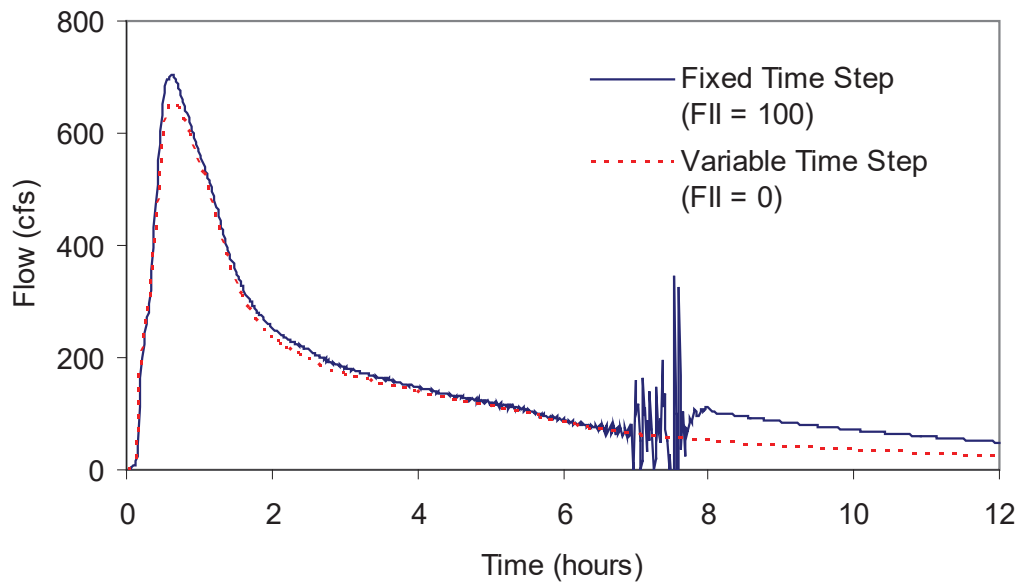

Figure 8-1 Flow Instability Index for a flow hydrograph
As an example of how the Flow Instability Index can be used, consider Figure 8-1 shown below. The solid line plots the flow hydrograph for the link identified as having the highest FII value (100) in a dynamic wave flow routing run that used a fixed time step of 30 seconds. The dashed line shows the hydrograph that results when a variable time step was used instead, which is now completely stable.